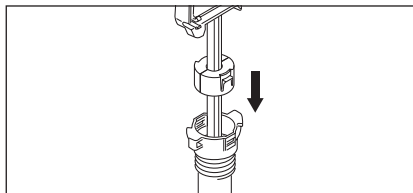

Figure 12. Replace the Pump Cap
4. Replace the pump cap. Insert the pump handle assembly into the pump barrel. Align tabs on pump cap with openings in pump barrel and push cap down until tabs lock in place. See Figure 12.
1. Unscrew the handle section from the lever section of the shut-off (Figure 12).